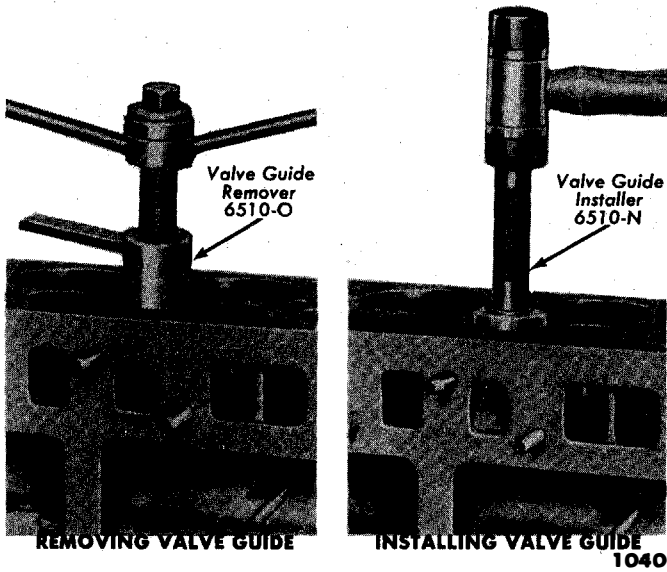

Fig. 31—Removing and Installing Valve Guide
(7) **VALVE GUIDE REPLACEMENT.** Pull the valve guide from the block as shown in fig. 31.
To install the valve guide, position the new guide in the bore. Drive the guide in the block as shown in fig. 31. Drive the exhaust valve guides to a depth of 1.08 inches and the intake valve guides to 1.18 inches measured from the top of the valve guide to the cylinder block surface as shown in fig. 32.